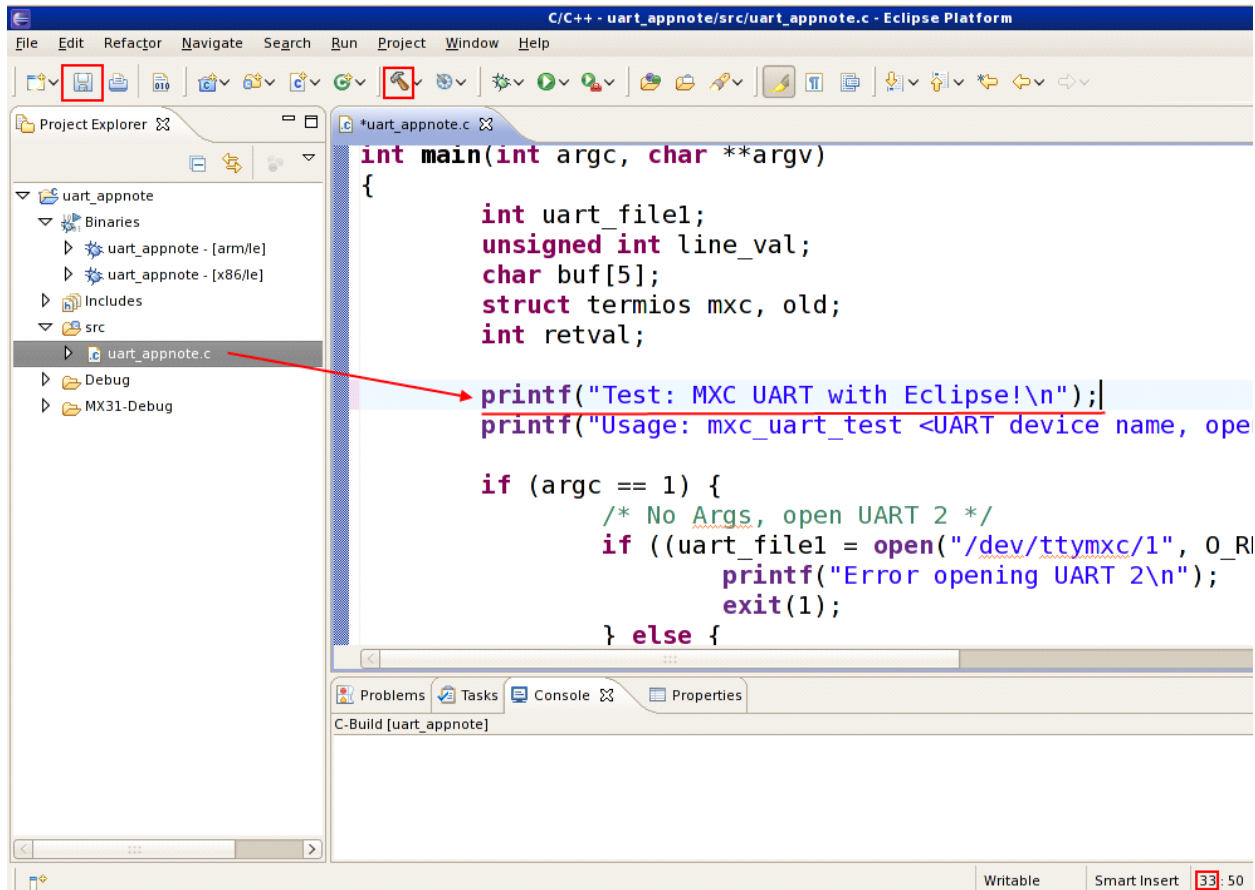

Figure 7. Modifying the Source Code
- On Eclipse Project Explorer, expand the `src` folder and double click the `uart_appnote.c` file to open the source file on the editor window. Now, replace line 33, `printf("Test: MXC UART!\n");`, with `printf("Test: MXC UART with Eclipse!\n");`. Save and build the project by clicking the floppy disk and hammer icons, respectively as shown in Figure 7.